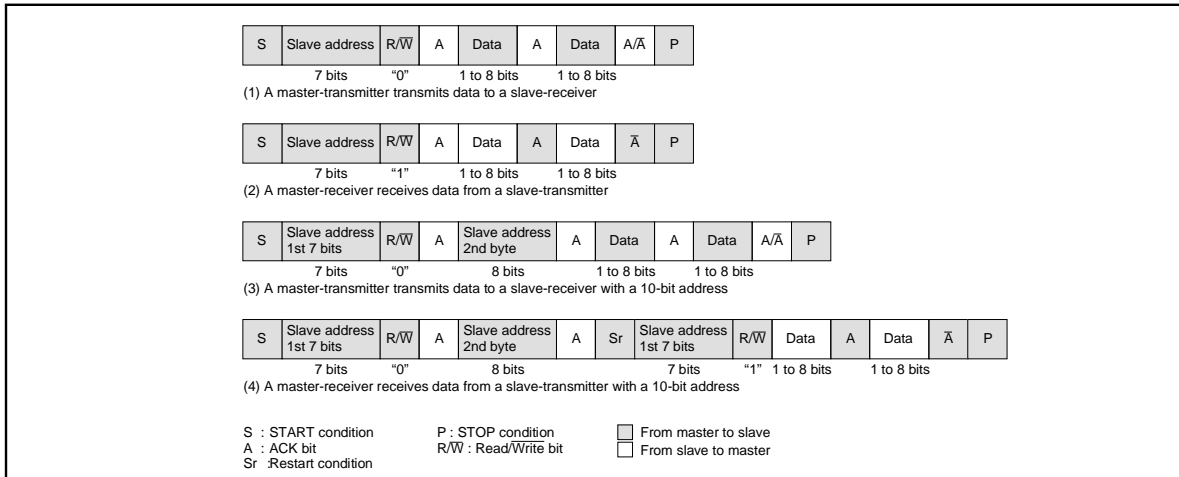

Fig. 2.11.41 Address data communication format
To meet the 7-bit addressing format, set the 10BIT SAD bit of the I²Ci control register to "0." The first 7-bit address data transmitted from the master is compared with the high-order 7-bit slave address stored in the I²Ci address register. At the time of this comparison, address comparison of the RBW bit of the I²Ci address register is not made. For the data transmission format when the 7-bit addressing format is selected, refer to Figure 2.11.41, (1) and (2).
When the first-byte address data matches the slave address, the AAS bit of the I²Ci status register is set to "1." After the second-byte address data is stored into the I²Ci data shift register, make an address comparison between the second-byte data and the slave address by software. When the address data of the 2nd bytes matches the slave address, set the RBW bit of the I²Ci address register to "1" by software. This processing can match the 7-bit slave address and R/W data, which are received after a RESTART condition is detected, with the value of the I²Ci address register. For the data transmission format when the 10-bit addressing format is selected, refer to Figure 2.11.41, (3) and (4).
(11) Example of Master Transmission